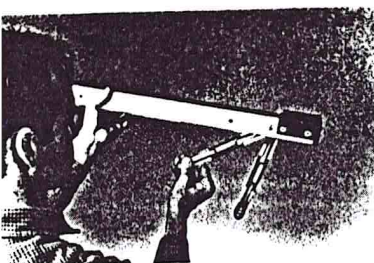

FIGURE 3.
- 4) Swing out the four support gussets on one stabilizer bar as shown in figure 3.